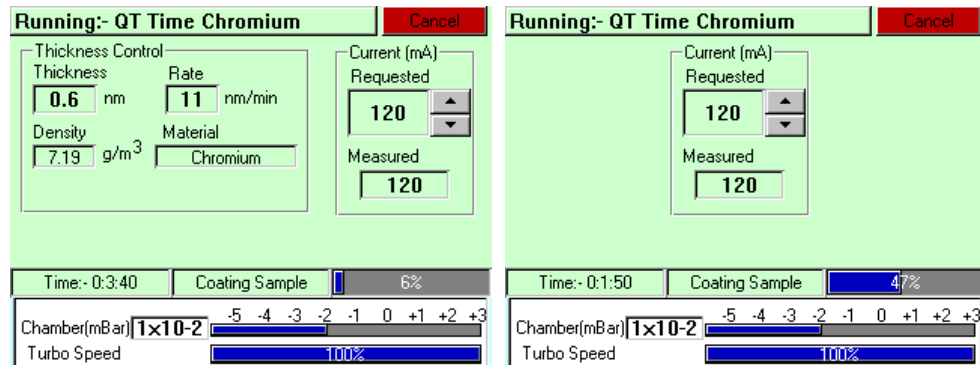

Figure 3-3. A run in progress: with FTM installed (left) and without FTM (right).
5. Tap on the **Run Profile** button. The Q150T starts pumping the sample chamber. The progress of the run is shown through a series of on-screen messages (Figure 3-3).